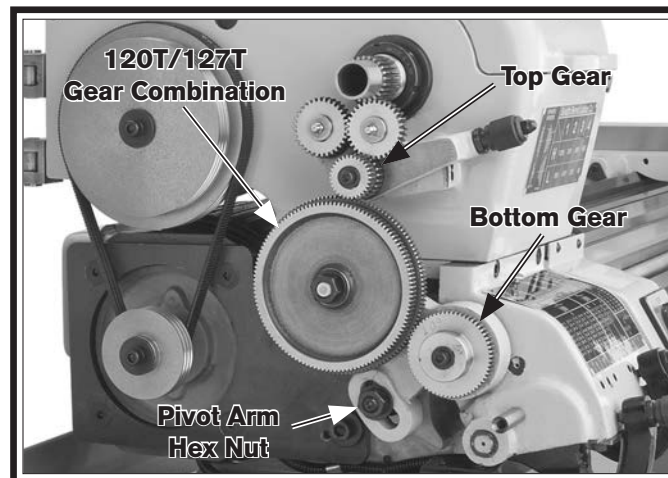

Figure 57. End gears.
3. Loosen the pivot arm hex nut, then fully lower the 120T/127T combination gear away from the top gear (see **Figure 57**).